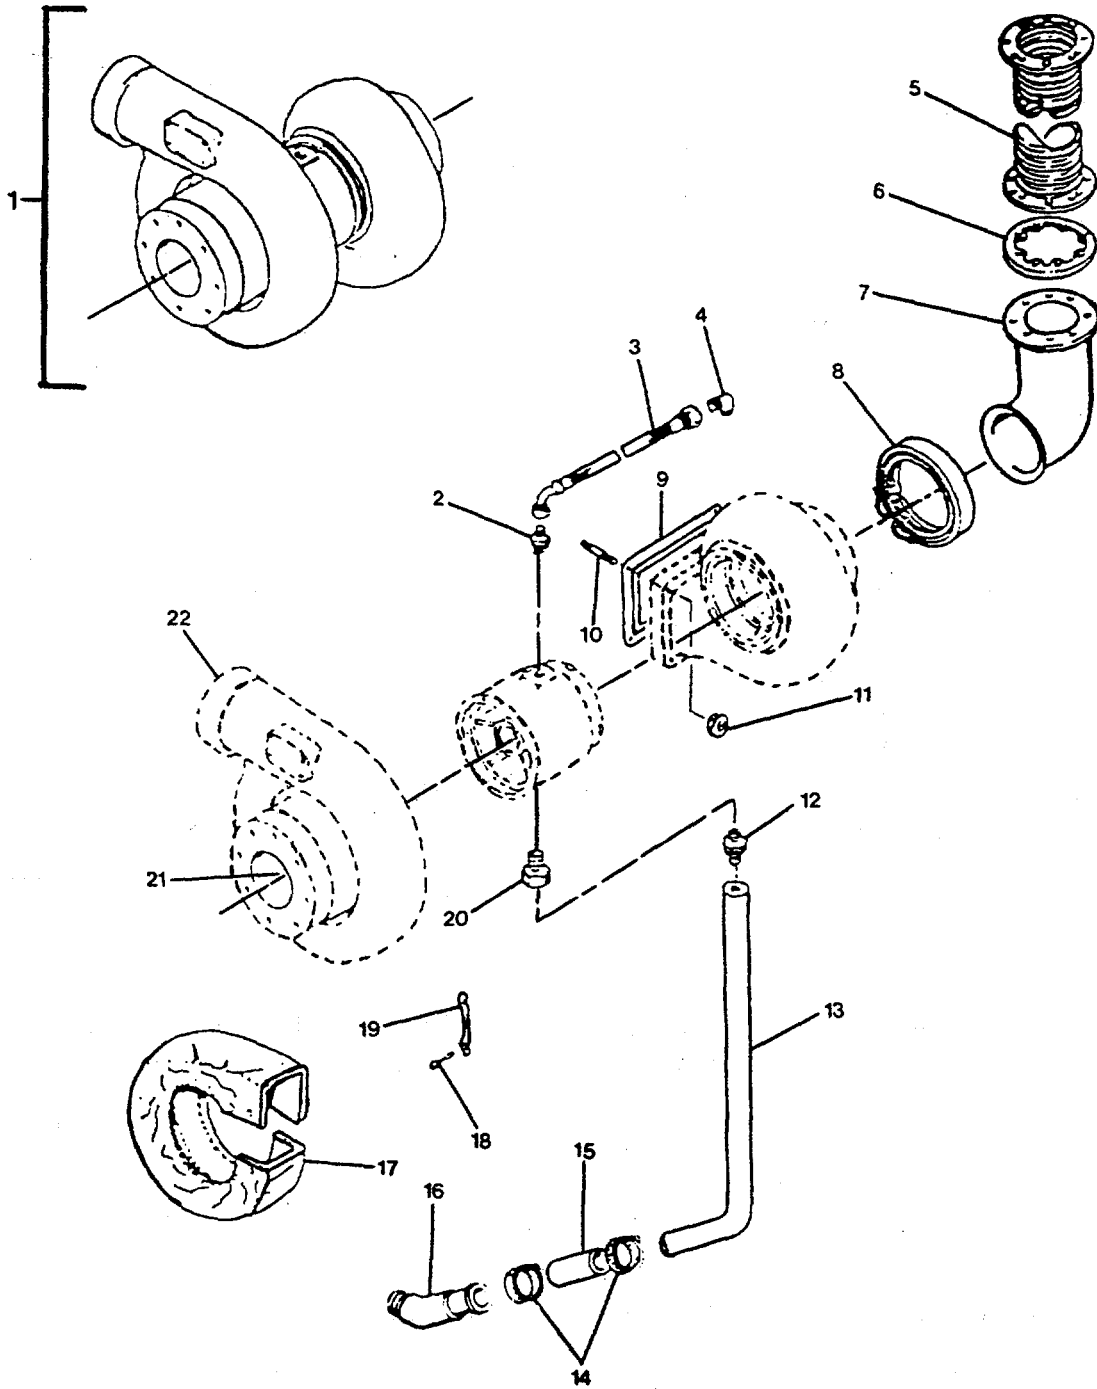

FIGURE 2-11. Turbocharger and Exhaust Group.
- a. Install new or clean intake air cleaner filter element (4). Ensure proper seating of element.
- b. Install cap (5) and secure with wing nut.
- c. Install replacement metallic tube (11) to nonmetallic elbow (1) and secure with hose clamp (12).
- d. Install replacement preformed hose (13) to metallic tube (11) and secure with hose clamp (12).
- e. Position air cleaner group on engine mounting straps (9) and secure with plain hexagon nuts (7), lockwashers (8), and hexagon capscrews (10).
- f. Connect preformed hose (13) to turbocharger and secure with hose clamp (12).
**2-30. Replace/Repair Turbocharger and Exhaust Group. (Figure 2-11)**
- a. Remove two capscrews (18) from the nut and bolt locking plate (19) and remove the turbocharger heat cover (17).
- b. Remove the intake air piping from the turbocharger inlet at point (21, Figure 2-11). See paragraph 2-29.
- c. Loosen the clamp on the air crossover connection at point (2, Figure 2-11) on the turbocharger.
- d. Disconnect the exhaust outlet connection (7) at V-band clamp (8).
- e. Disconnect hose clamps (14) and remove nonmetallic hose (15) from bent metallic tube (13) and pipe-to-hose elbow (16).
- f. Disconnect nonmetallic hose assembly (3) at exhaust manifold adapter (2). Remove nonmetallic hose assembly (3) from pipe-to-tube elbow (4).
- a. Install a new gasket (6) and connect the flexible connection (5) to the exhaust outlet connection (7).
- b. Position new exhaust outlet connection gasket (9) and non-aircraft turbosupercharger (1) on the studs (10). Ensure the gasket sealing surfaces are clean and that the raised bead on the gasket is towards the turbocharger.
- c. Apply anti-seize pipe thread compound to the stud threads (10) and install nuts (11). Tighten nuts (11) to 20-25 ft-lb (27.1-33.8 N•m) torque.
- d. Install bent metallic tube (13) to the pipe reducer (20) on the turbocharger with the adapter (12). Connect hose (15) with clamps (14) to tube (13) and elbow (16). Tighten clamps (14). Install clamps with hardware to tube (13).
- e. Connect the hose (3) to elbow (4). Connect the hose (3) to the adapter (2).
- f. Connect the outlet connection (7) to the turbocharger (1) with V-band clamp (8).
- g. Connect the air crossover connection from the intake manifold to point (22) on the turbocharger (1).
- h. Connect the intake air piping to the turbocharger at point (21). See paragraph 2-29.
- i. Install the heat cover (17, Figure 2-11) on the turbocharger (1) with capscrews (18) and locking plate (19).